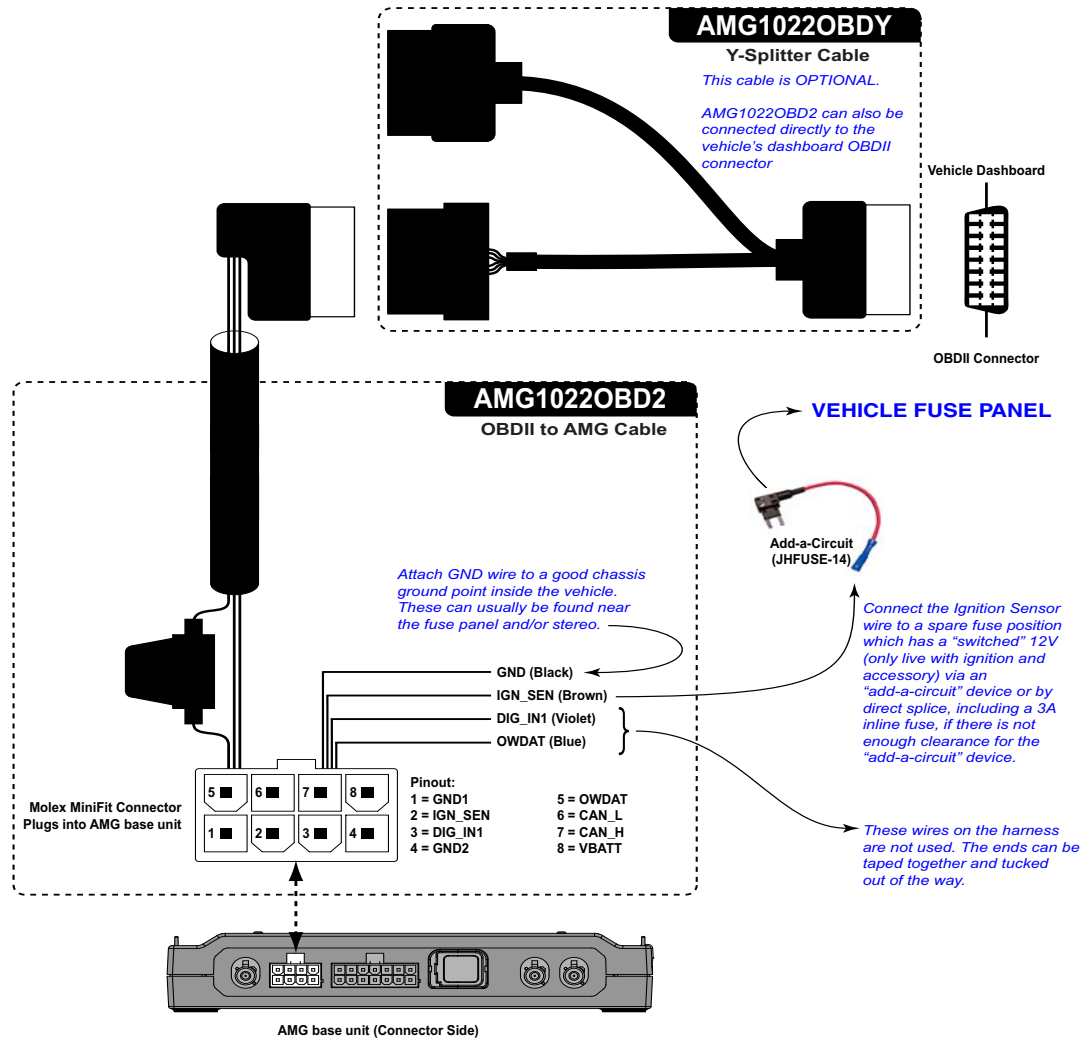

Figure 8: Wiring Harness Installation Overview
Figure 8 shows the wiring harness installation overview. The following section provides the detailed installation instructions. The general concept is to plug the 8-pin molex connector into the AMG and the D-shaped 16-pin connector into the vehicle's OBDII port. Lastly, the ignition sense wire gets connected to the fuse panel. Optionally, if the OBDII Y-Cable option is being used, it is installed between the vehicle's OBDII port and the OBDII connector of the wiring harness.
- 5) The remaining free end of the Y-splitter cable is to be connected to the OBDII connector of the main wiring harness as shown in **Figure 8**.